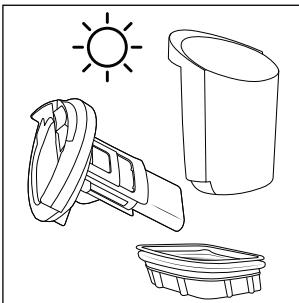

Fig. 27
- ◆ Allow the dirt filter ⑩, the waste water tank ② and the lid of the waste water tank ⑨ to dry completely (see fig. 27).